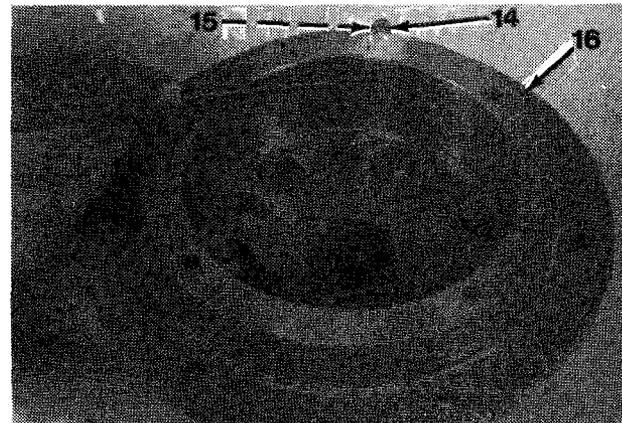

Figure 16-6
17. Install new O-ring (15) and adapter (14) in brake cylinder (16, Figure 16-6).